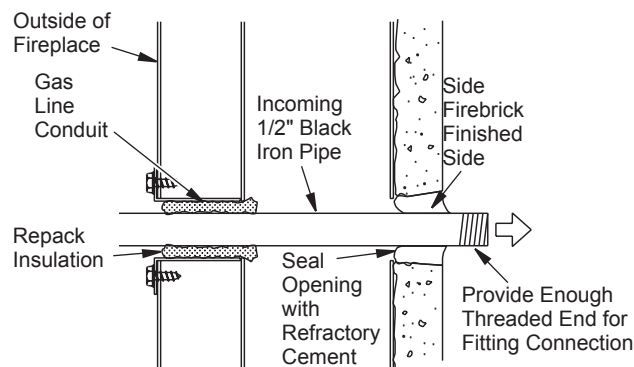

Figure 20 - Gas Line Installation
3. Run a 1/2" black iron gas line into fireplace through rear at gas line conduit sleeve (if using a raised platform, add height). Provide sufficient gas line into fireplace chamber for fitting connection (see Figure 20).